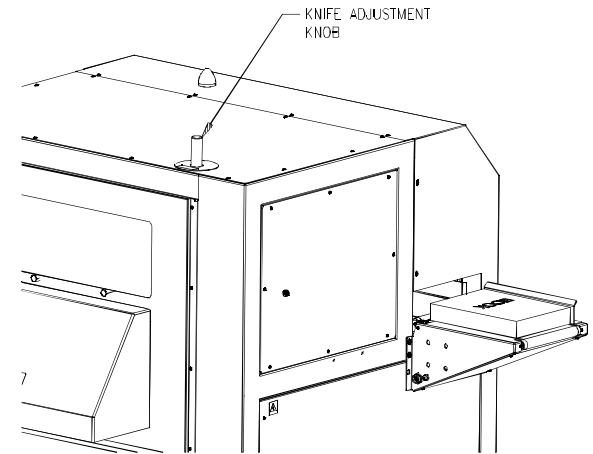

Figure 4-9. Knife Adjustment Knob
4. Find the knife adjustment knob at the left rear of the machine as shown in Figure 4-9.